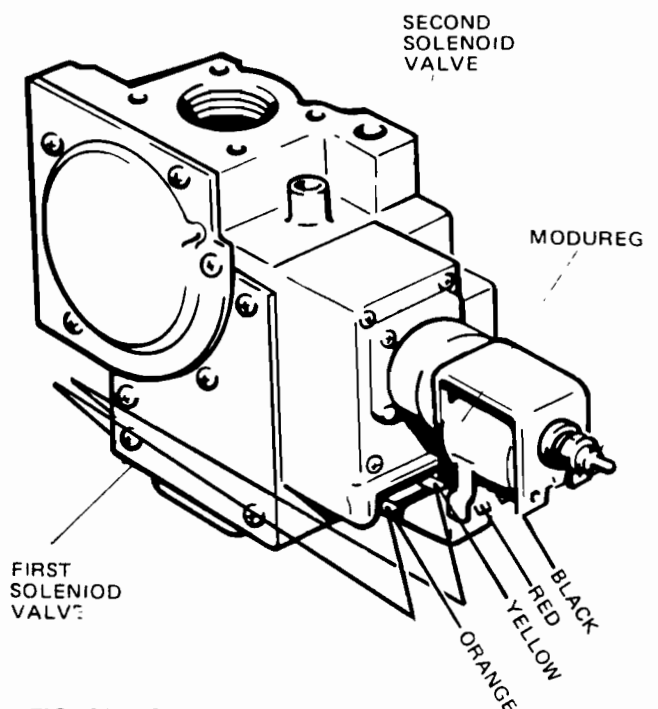

FIG. 36a GAS VALVE
- i) Reassemble in reverse order. Before fitting the valve into position, connect the two spade connectors (yellow and orange wire) to the first solenoid, polarity is not important (see Fig. 36A). Re-commission appliance as in commissioning procedure.
## 20. MODUREG COIL (see Fig. 36A)
## 21. SECOND SOLENOID VALVE (see Fig. 36A)